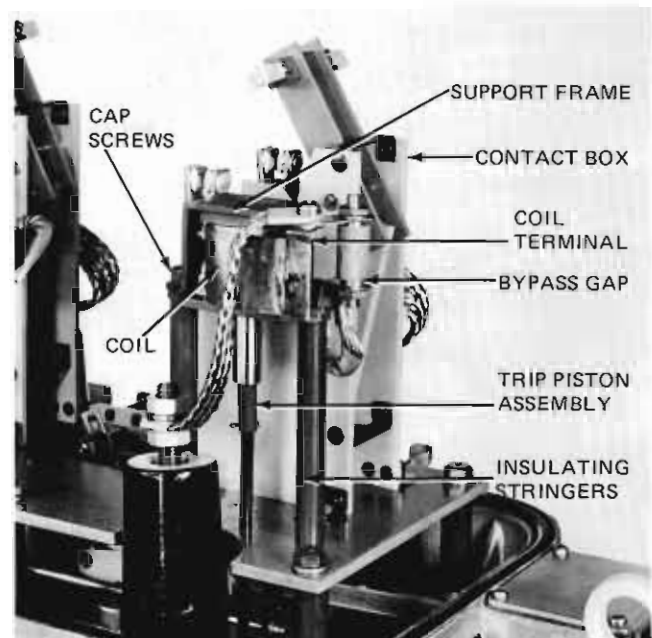

Figure 2
10. Before retanking, invert the sectionalizer and introduce oil into the three hydraulic mechanisms with an ordinary squirt can. Then quickly place mechanism in tank far enough to cover the hydraulic mechanism with oil. Move trip pistons, identified in Figure 2, up and down several times to eject any entrapped air. Complete retanking operation.
1. Grasp insulating stringers, Figure 2, with pliers. Be sure to use heavy cardboard between pliers and stringer to avoid damage to the stringer. Then loosen and remove both cap screws and lockwashers. Disconnect both coil terminals. One of these is visible in Figure 2, and the other is located between coil and contact box.